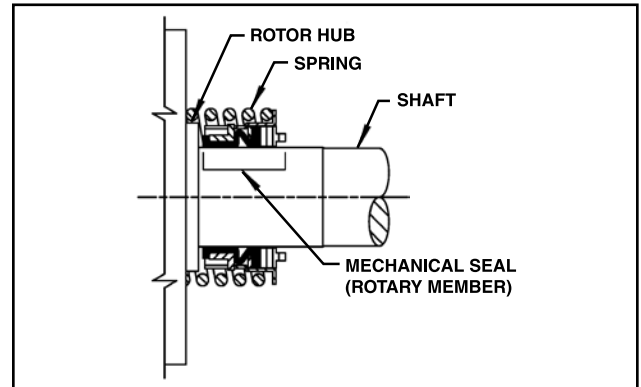

Figure 30
5. Place seal spring on the shaft against the rotor hub. Refer to Figure 30.